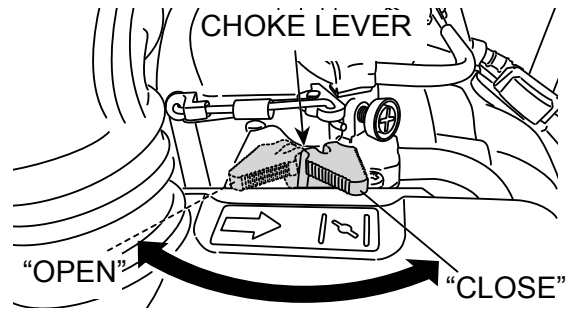

Figure 10. Choke Lever
3. Close the choke lever (Figure 10) and move the throttle lever to the "Full Open" position. Turning the choke lever 90° clockwise closes the choke. In cold weather, start the unit with choke fully closed. In warm weather or when the engine is warm, the unit can be started with choke halfway or completely open.
5. If engine fails to start, move the choke lever (Figure 10) to the half open position to avoid flooding.